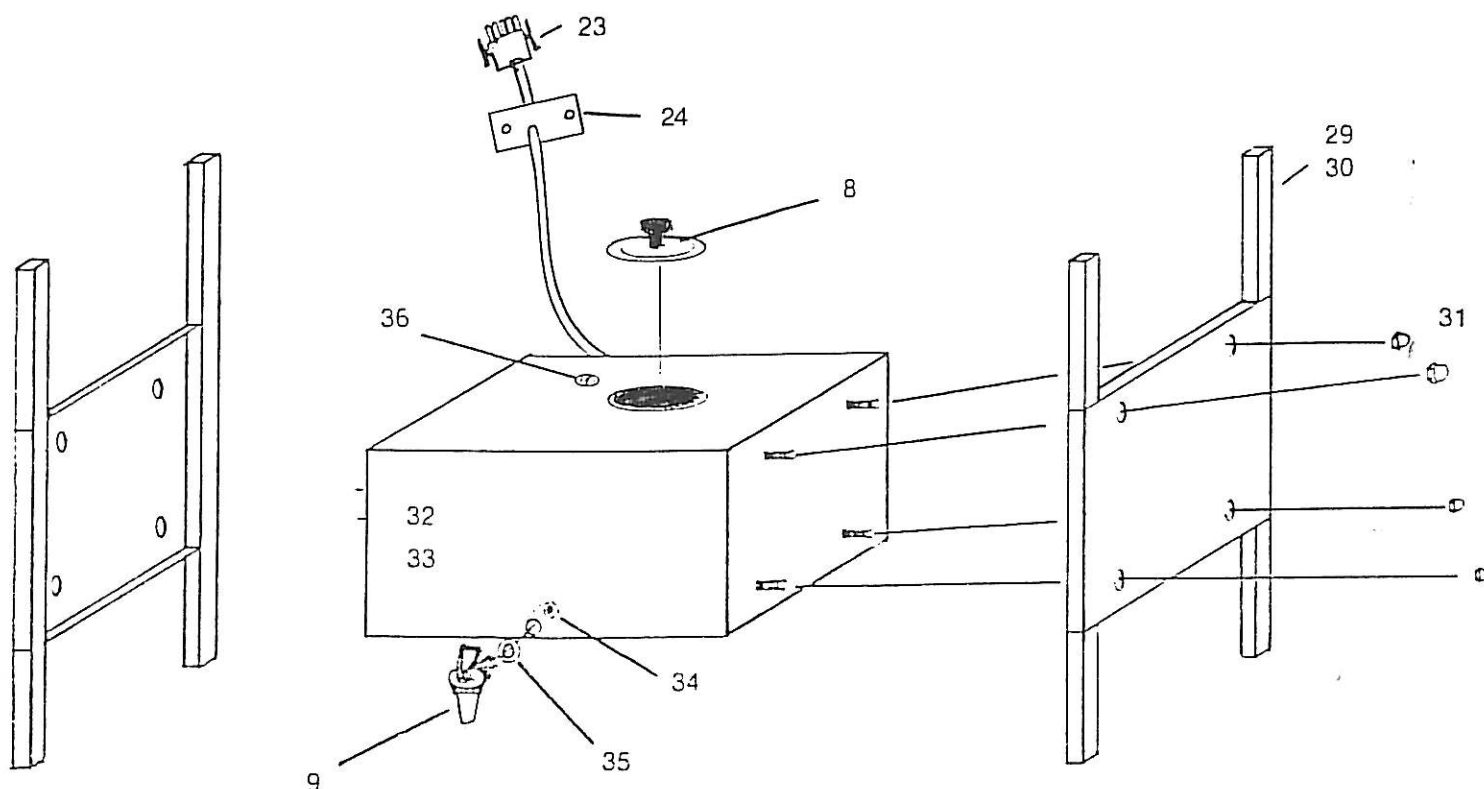

Figure 1
- 3) Install the storage tank drain faucet (Fig. 1). Turn the unit back to an upright position. Install the drain faucet using the following procedure: